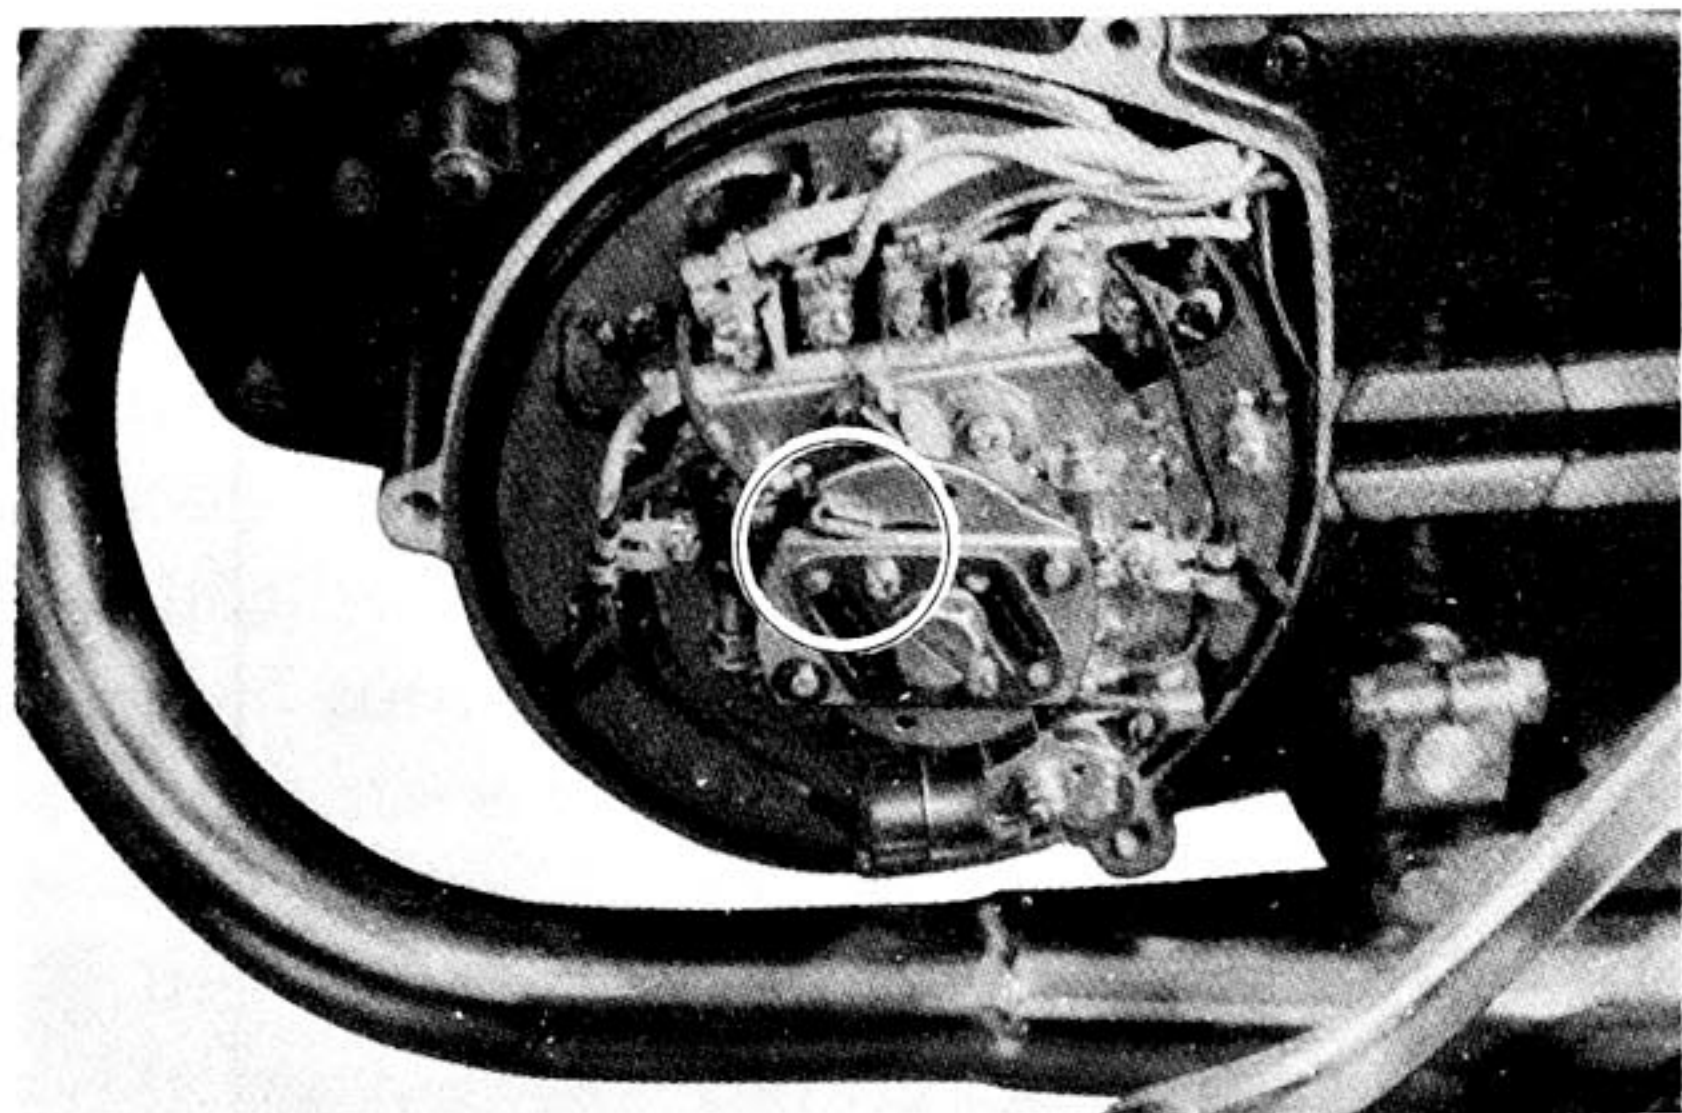

Fig. 6-5-15
- (5) Insert a match, bent spoke or other suitable material into the hole in the advance plate of the governor assembly. This will hold the governor assembly at the maximum advance position. All YAMAHA engines with electric starter utilize a governor assembly. This assembly must be at maximum advance before the engine is timed. (Fig. 6-5-15)